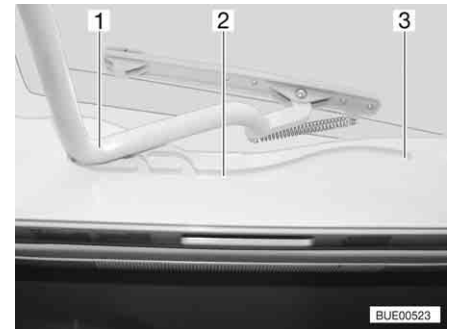

Fig. 61 Heki skylight, guide
- Pull the bar (Fig. 61,1) in the guides (Fig. 61,2) to the rearmost position (Fig. 61,3).
- Use both hands to push the bar (Fig. 61,1) slightly upwards.
- Pull the bar in the guides (Fig. 61,2) to the desired position.